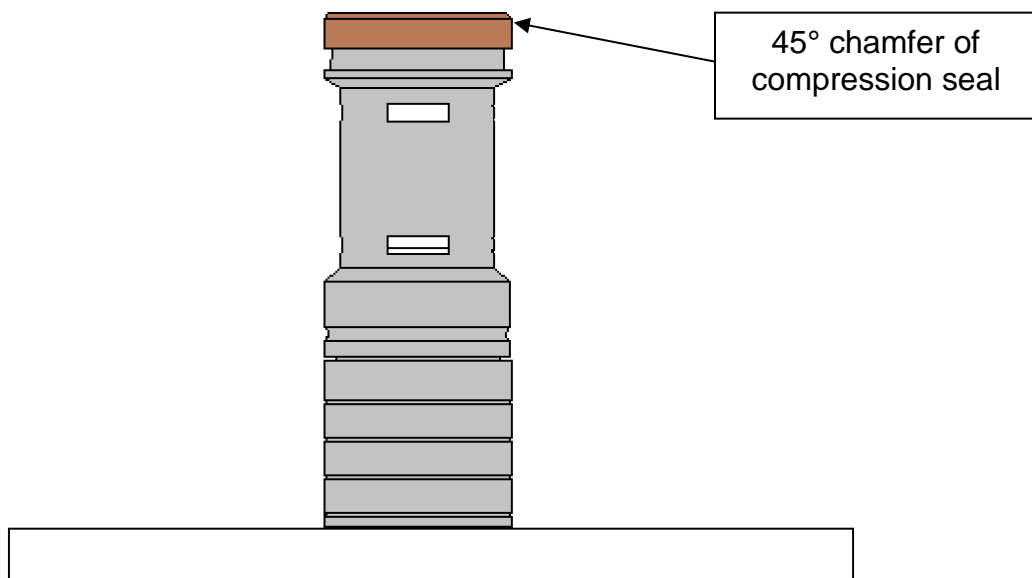

Figure 5: Compression Seal Placement
- 3.5.4 Gently place the compression seal on the tapered nose of the insert with the 45° chamfer upward as indicated in Figure 5, so that only a minimal amount of force.